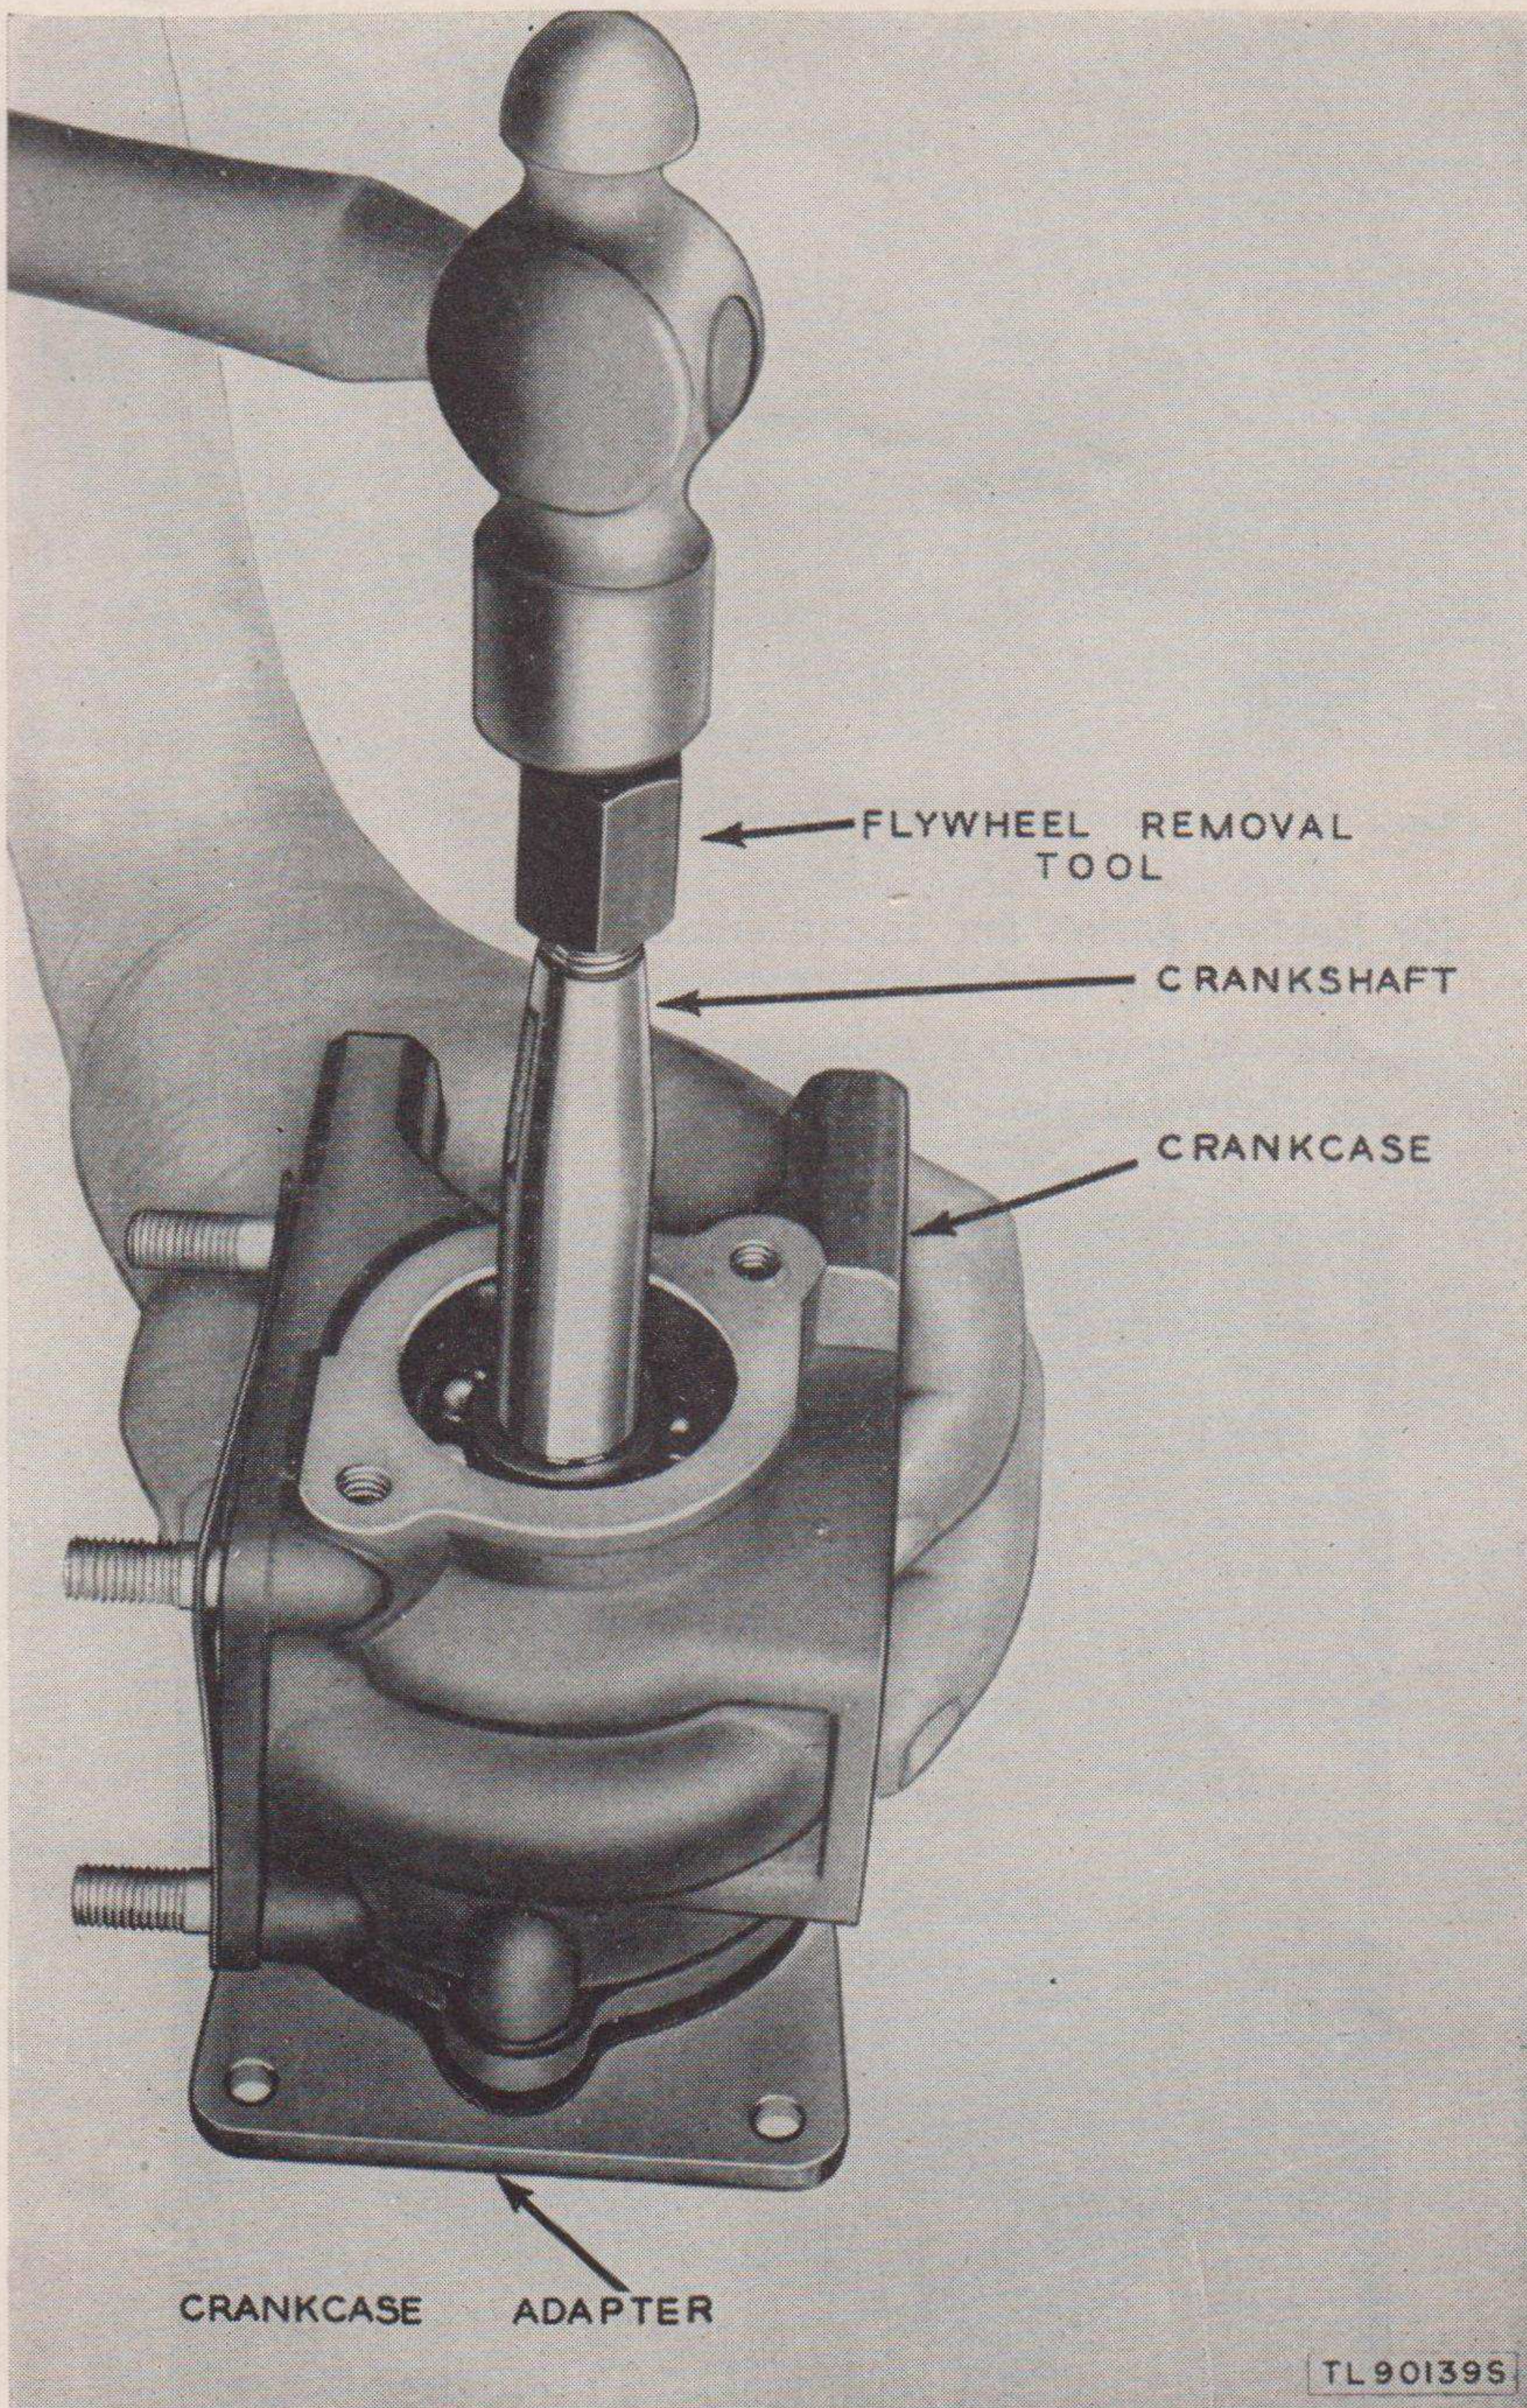

Figure 41. Removing crankshaft and crankcase adapter.
- (1) Disassemble the engine to the point where the crankshaft can be removed (par. 63).
- (2) Remove the three screws and lockwashers that attach the crankcase adapter to the crankcase.
- (3) Screw the flywheel-removal tool over the end of the crankshaft and drive the shaft end bearing and adapter out of the crankcase (fig. 41).
- (4) The main bearings are pressed on the crankshaft and should be removed only if they are worn. (Always replace main bearings when crankshaft requires replacement.) To replace a worn bearing, place the crankshaft in an arbor press, with the bearing properly supported, and press off.